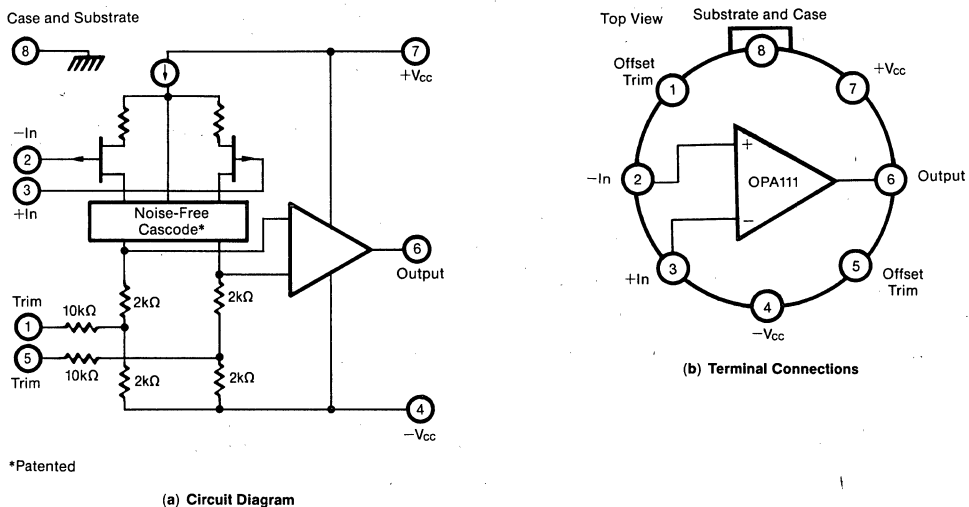

FIGURE 2. Circuit Diagram and Terminal Connections.
3.2.7 Circuit diagram and terminal connections. The circuit diagram and terminal connections are shown in Figure 2.